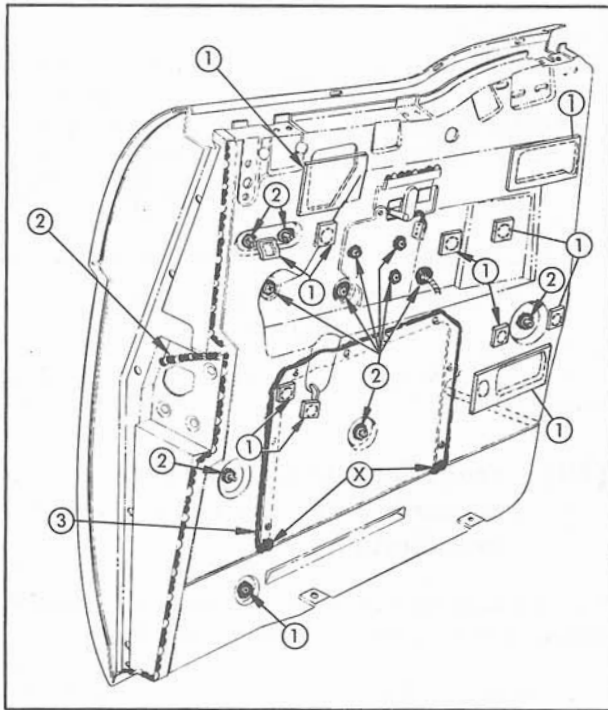

Fig. 17-16 Rear Door Inner Panel Sealing
The numbered items listed below refer to the numbered arrows in Fig. 17-16.
3. After installation of inner panel access hole cover, apply an approved weatherstrip cement along the top and side joints of cover to inner panel. Apply cement at the lower corners and offset areas, indicated at "X" in Fig. 17-16. Special attention should be given these areas.
(15) Front and Rear Door Lock Striker Removal, Installation and Adjustment